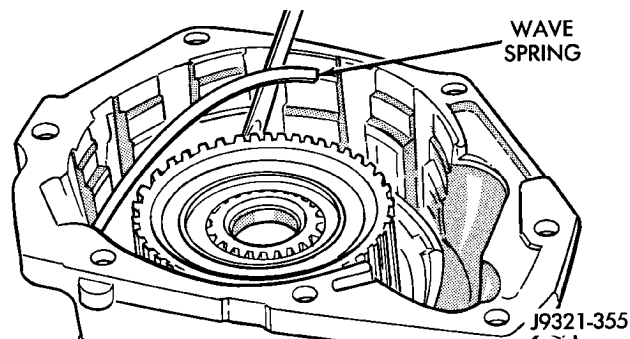

Fig. 246 Overdrive Clutch Wave Spring Installation
(2) Install wave spring on top of reaction ring (Fig. 246). **Reaction ring and wave ring both fit in same ring groove.** Use screwdriver to seat each ring securely in groove. Also ensure that the ends of the two rings are offset from each other.